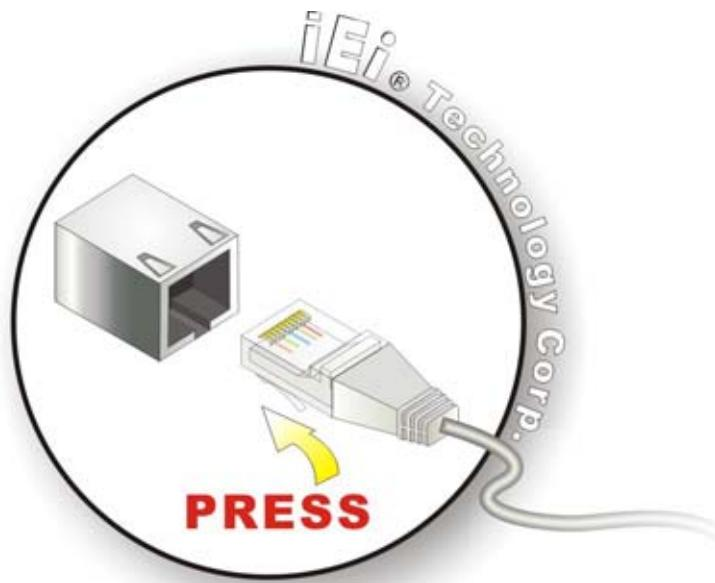

Figure 5-12: LAN Connection
Step 7: Align the connectors. Align the RJ-45 connector on the LAN cable with one of the RJ-45 connectors on the eKINO-945GSE. See **Figure 5-12**.